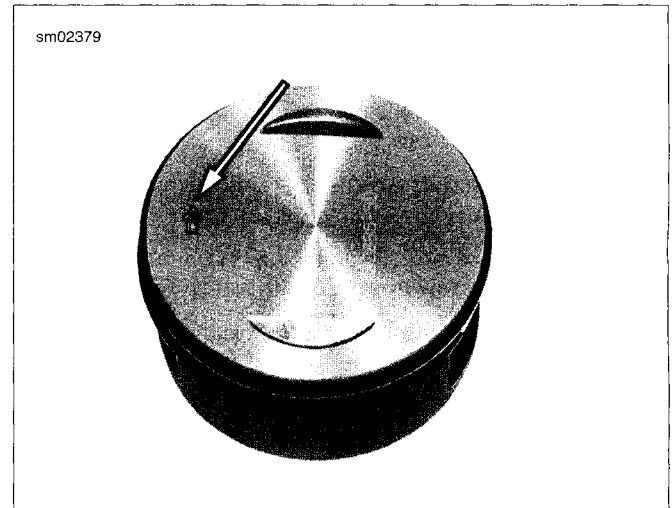

Figure 3-29. Piston Installation Arrow
4. See Figure 3-29. Place piston over rod end so that the arrow stamped at the top of the piston points toward the front of the engine.